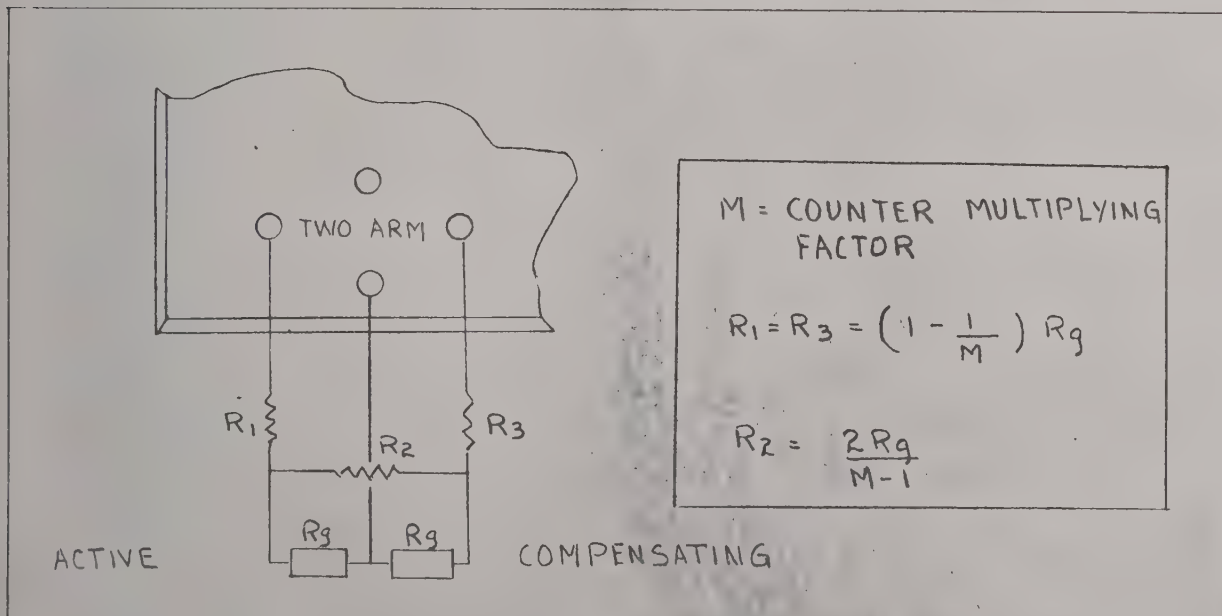

Figure 4
f. To make measurements on materials such as plastics and metals in the plastic region, or to increase the range of the dial so that strain readings can be made without resorting to a change of the "ADD TO READING" switch, it is only necessary to introduce fixed wire-wound resistors in the gage circuits as shown in Fig. 4. By the use of formulas shown in Fig. 4, the dial range can be increased appreciably. The resistors should all be precision, non-inductive wire-wound type accurate within $\pm 0.25\%$. The Formulas hold closely for values of M up to M=10.
Although the Type 20 Indicator is designed as a null-balancing instrument for the measurement of static strains, the provision of a "Scope Jack" in its side panel permits the convenient and practical observation of dynamic strains with the aid of any standard cathode-ray oscilloscope. If the magnitude of the strain to be observed is below about 5000 micro-inches per inch, for a gage factor of 2.0, the indication is quantitative. Beyond that, the strain indicator amplifier becomes non-linear, but by using the circuit of Figure 4, proportionately larger dynamic strains can be observed with good linearity. The procedure is as follows: